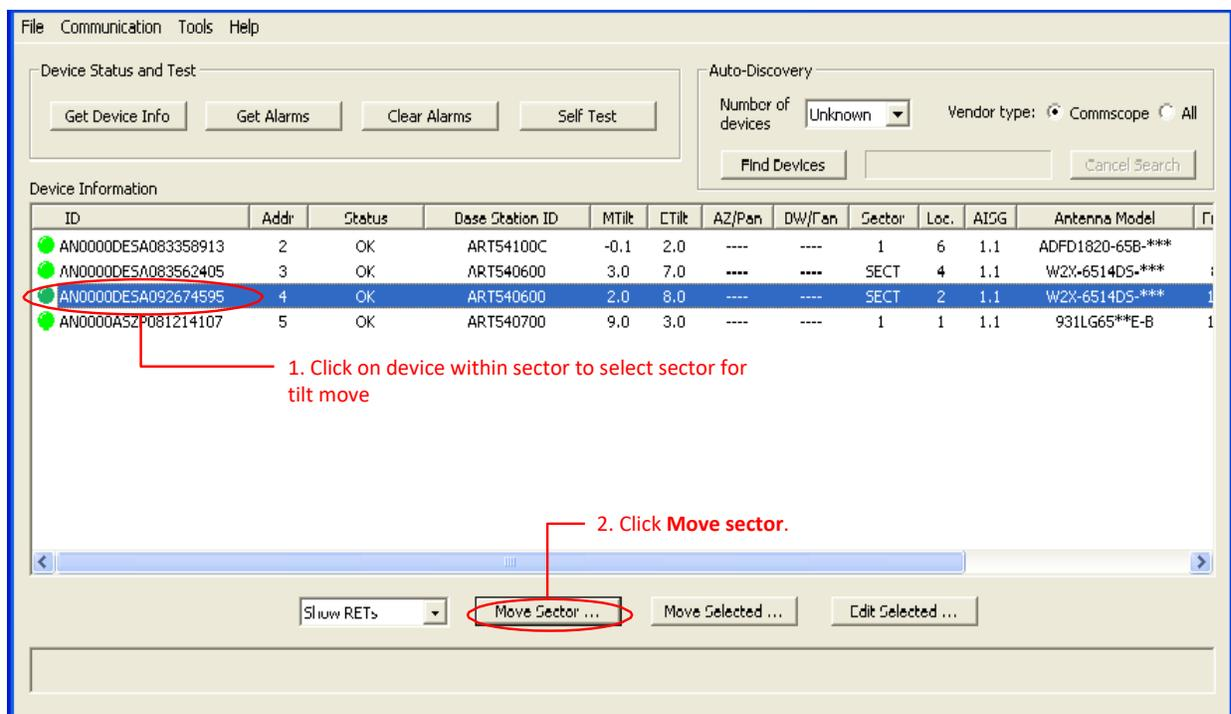

Figure 8-1. Selecting an Antenna Within a Sector.
2. Select a device from the **Device Information** list that contains the Sector ID and tilt range representing the group to be moved (Figure 8-1).
3. Click **Move Sector** (Figure 8-1).